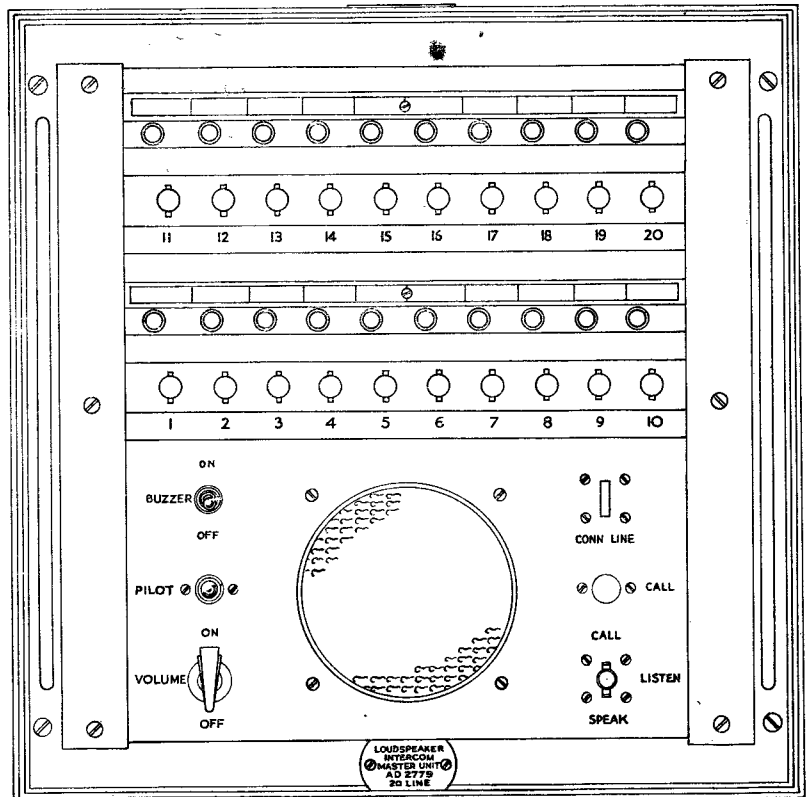

Fig. 1. 20-line unit, front
2. The equipment at the central point comprises a mains-operated two-stage amplifier. This is fitted with a moving-coil loud-speaker, which acts as a microphone and as a telephone receiver, and a three-position key-switch to select either a speak, listen or call function. This unit is mounted with the additional apparatus necessary for intercommunication with one, 10 or 20 extensions as necessary. The additional apparatus required at the central point for each extension consists of a lamp and key-switch, the former indicating that the associated extension is calling, and the latter for the central station to call the extension. The 20-line version is shown in fig. 1.